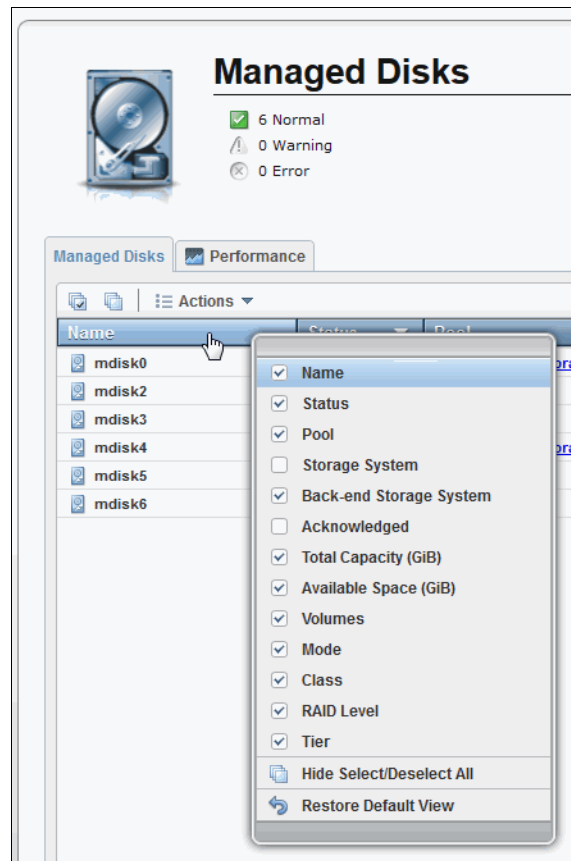

Figure 13-11 Modifying Managed Disks column headings
2. Right-click any of the column headings to modify the columns that are displayed, as shown in Figure 13-11.